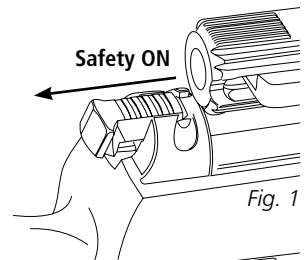

Fig. 1
- Pull the safety to put it **ON**. In this position, the trigger cannot be pulled and the gun cannot be shot (Fig. 1).
CAUTION: Until you are ready to shoot, leave the safety ON (Fig. 1).